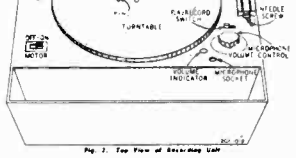
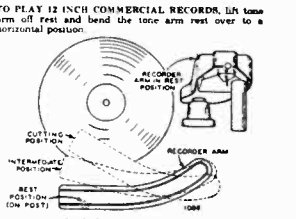

Fig. 2. Top View of Recording Unit
Fig. 3. Position of Recorder Arm
- A-Recorder arm in rest position—See Fig. 3. B-Tone arm in rest position—See Fig. 2. C-Microphone Volume Control in OFF position—See Fig. 2.
recorder arm post; making certain that the recorder arm sets securely upon the post as shown in Fig. 3. Do not move the recorder arm past the post.
Insert the plug on the end of the microphone cord in the microphone socket (Fig. 2) on the motor panel and push this plug all the way down.